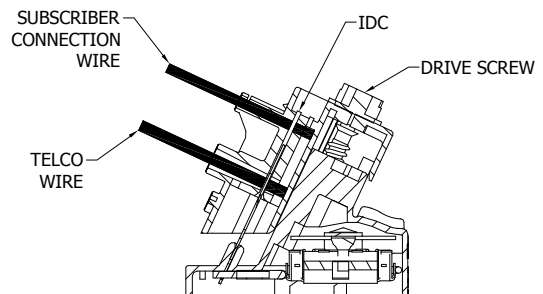

Figure 7
6. Insert while holding the two subscriber connection wires in place. **Ensure wires are fully inserted beyond the IDC connector (See Figure 7).** Tighten Drive Screw to the full down position. **Pull on wires to ensure proper connection. Wires should remain securely in place.**
3. Fully insert the two feeder (telco) wires into their respective tip and ring (color-coded) ports. **Ensure wires are fully inserted beyond the IDC connector (See Figure 7).**